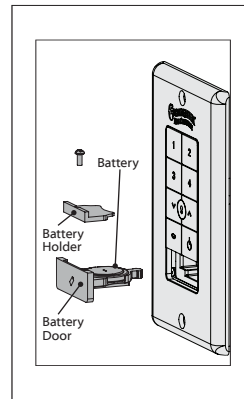

Figure 21
1. Before operating the wall control, press on the battery door to eject it. Unscrew the battery holder. Insert the battery, found in the control hardware bag, with the positive (+) side facing downward. Reinstall the battery holder and reinsert the battery door into the wall control. Figure 21.